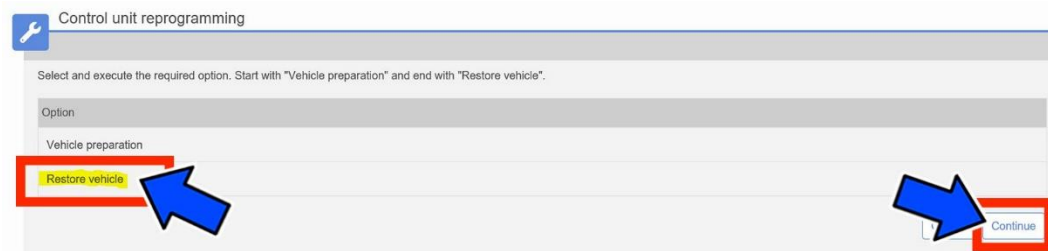

Figure 34 - Restore Vehicle
19. Select **“Restore Vehicle”** and then click **“Continue”** (Figure 34).